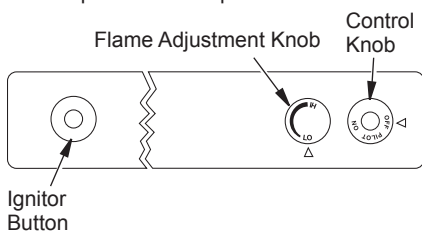

Figure 31 - Control Knob and Ignitor Button Location (Shown as Supplied, No Control Options)
- Press in and turn control knob clockwise  to the OFF position (see Figure 31).
- Wait five (5) minutes to clear out any gas. Then smell for gas, including near the floor. If you smell gas, STOP! Follow "B" in the safety information, page 18. If you don't smell gas, go to the next step.
- Press in and turn control knob counterclockwise  to the PILOT position. Press in control knob for five (5) seconds (see Figure 31).